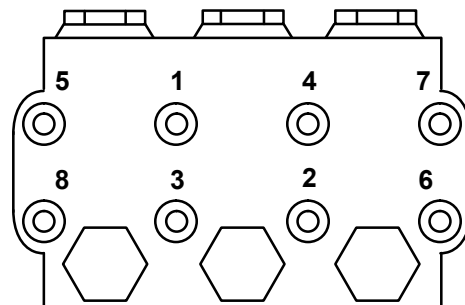

Figure 4
8. Install the capscrews and washers finger-tight. Torque the screws to 21.7 ft–lb (29 Nm) following the tightening pattern (Figure 4). Uneven tightening may cause the manifold to bind or jam.